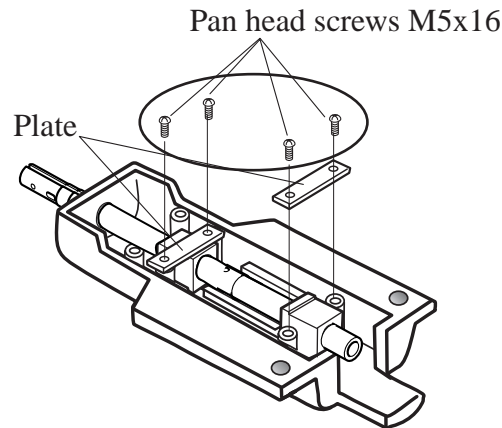

Fig.15
2. Fix plane bearings 14 and plates with 4 pcs. of pan head screws M5x16 as illustrated in Fig.15.